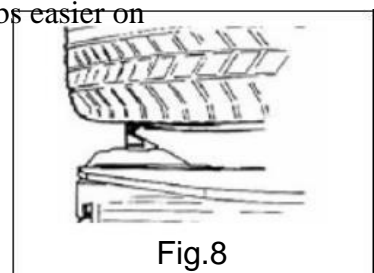

Fig.8
- ☐ Release the beads both sides of tire as tire changer manual stated, clamp the tire from outside (Fig.8). Depress the corresponding pedal to open the jaws till big enough for rim